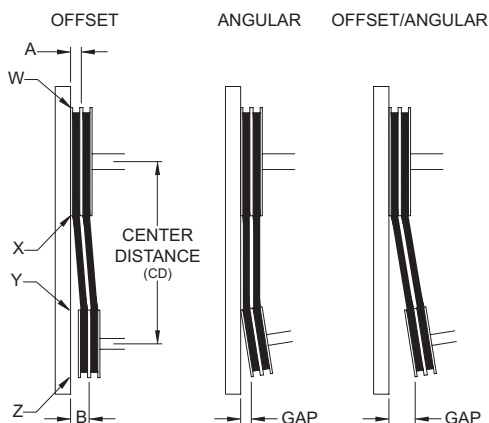
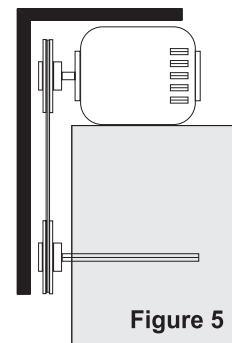

Figure 4
Figure 5
4. Ensure pulleys are properly aligned. Refer to *Figure 4*.
Figure 4 indicates where to measure the allowable gap for the drive alignment tolerance. All contact points (indicated by WXYZ) are to have a gap less than the tolerance shown in the table. When the pulleys are not the same width, the allowable gap must be adjusted by half of the difference in width (as shown in A & B of *Figure 4*). *Figure 5* illustrates using a carpenter's square to adjust the position of the motor pulley until the belt is parallel to the longer leg of the square.